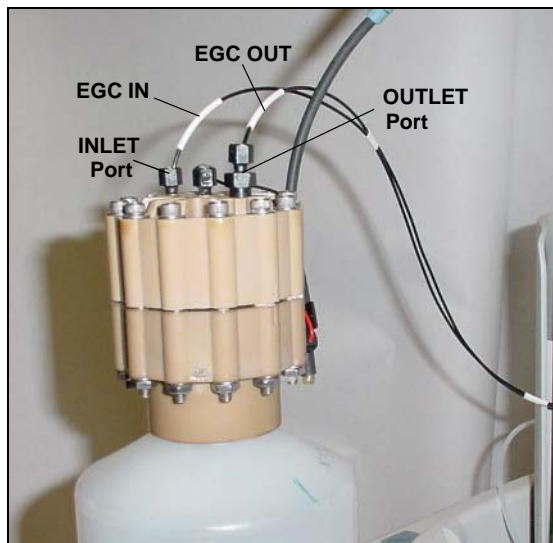

Figure 5-45. Dionex EluGen Cartridge Inlet and Outlet Connections
13. Connect the **EGC OUT** line from the holder to the **OUTLET** port (see Figure 5-45).